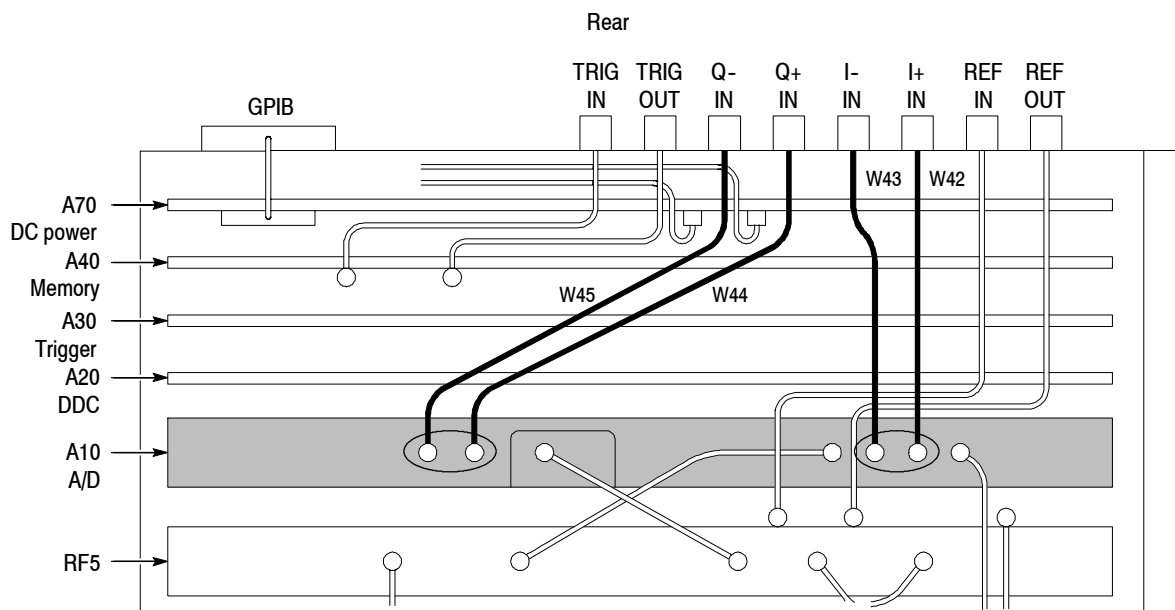

Figure 9: Connecting the IQ input (top view)
3. Connect the SMB cables (Tektronix part number 174-B980-00) W42, W43, W44, and W45, as shown in Figure 9, from the connectors attached in the previous step to those on the A10 A/D board.